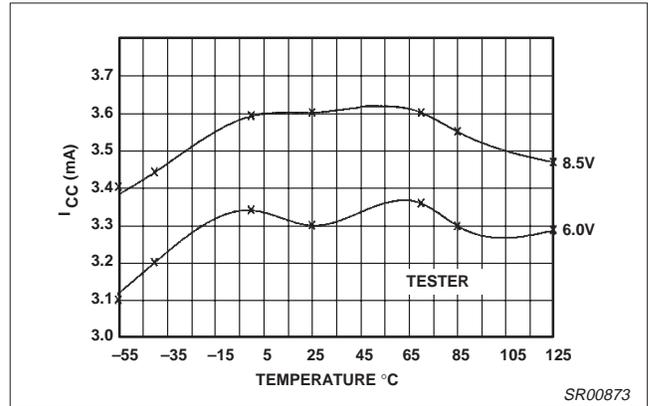

Figure 34. SA604A I_{CC} vs Temperature
A. The SA605 consumes about 5.6mA of current at 6V. This level is slightly temperature and voltage dependent as shown in Figure 33. Similar data for the SA604A is shown in Figure 34.